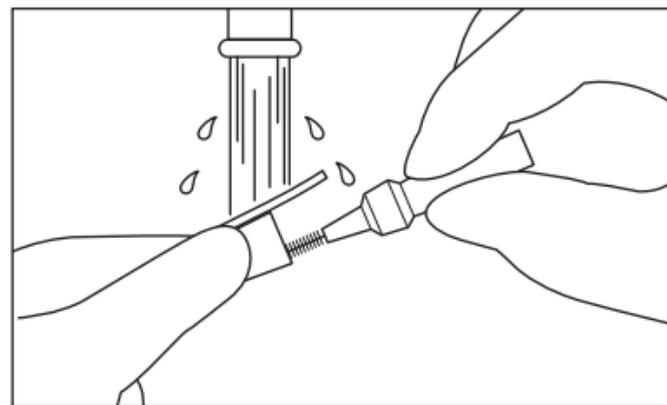

Fig. 14
- 4) Clean the attachment part of the irrigation nozzle for 15 seconds or more, using an interdental brush (wire thickness 0.7mm) that conforms to size 4 in ISO 16409. (Fig. 14)